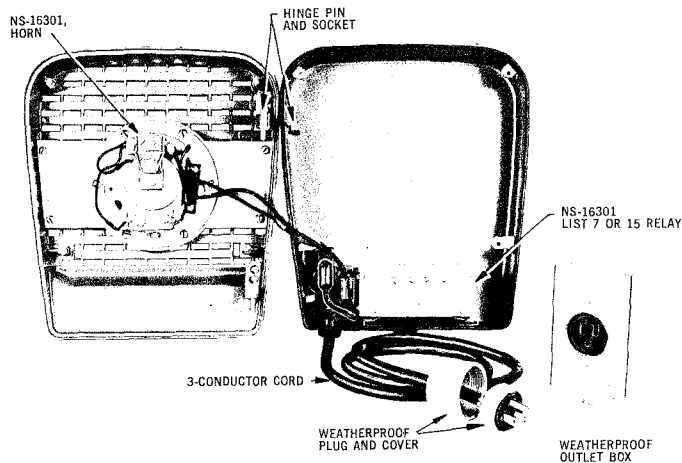

Fig. 6 - Complete Assembly, Outdoor Dual Potential, Horn
3.02 The armature on relays associated with auxiliary signals restores to normal (open contacts) by gravity. Always mount signal on a vertical surface. The relays must be in the horizontal position as shown in Fig. 6.
3.11 Each back box is equipped with two sockets which engage with two pins of each front cover to form a hinge (see Fig. 6). The signal fastens to the back box with four machine screws which are furnished with the grilled cover. Be sure that the gasket on the back box is in place. For outdoor use, the rain hood mounts on the cover with three machine screws.